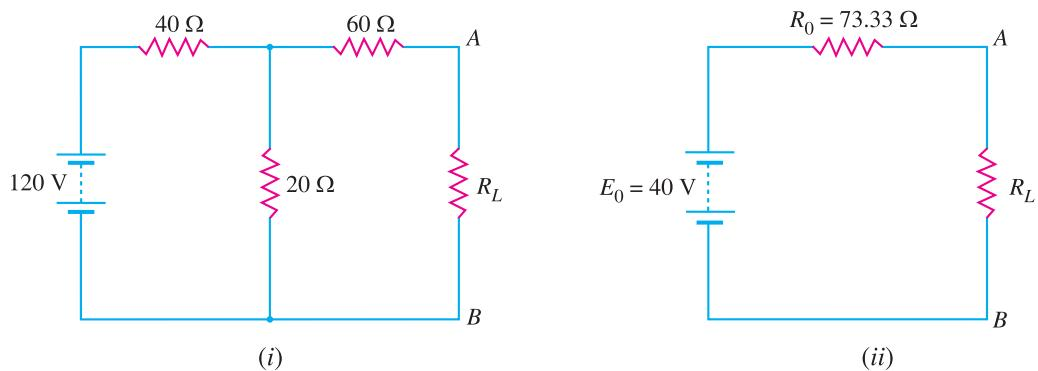

Fig. 1.33
**Example 1.10.** Calculate the value of load resistance  $R_L$  to which maximum power may be transferred from the circuit shown in Fig. 1.33 (i). Also find the maximum power.
**Solution.** We shall first find Thevenin's equivalent circuit to the left of terminals  $AB$  in Fig. 1.33 (i).
The Thevenin's equivalent circuit to the left of terminals  $AB$  in Fig. 1.33 (i) is  $E_0$  ( $= 40 \text{ V}$ ) in series with  $R_0$  ( $= 73.33 \Omega$ ). When  $R_L$  is connected between terminals  $A$  and  $B$ , the circuit becomes as shown in Fig. 1.33 (ii). It is clear that maximum power will be transferred when
**Comments.** This shows another advantage of Thevenin's equivalent circuit of a network. Once Thevenin's equivalent resistance  $R_0$  is calculated, it shows at a glance the condition for maximum power transfer. Yet Thevenin's equivalent circuit conveys another information. Thus referring to Fig. 1.33 (ii), the maximum voltage that can appear across terminals  $A$  and  $B$  is  $40 \text{ V}$ . This is not so obvious from the original circuit shown in Fig. 1.33 (i).